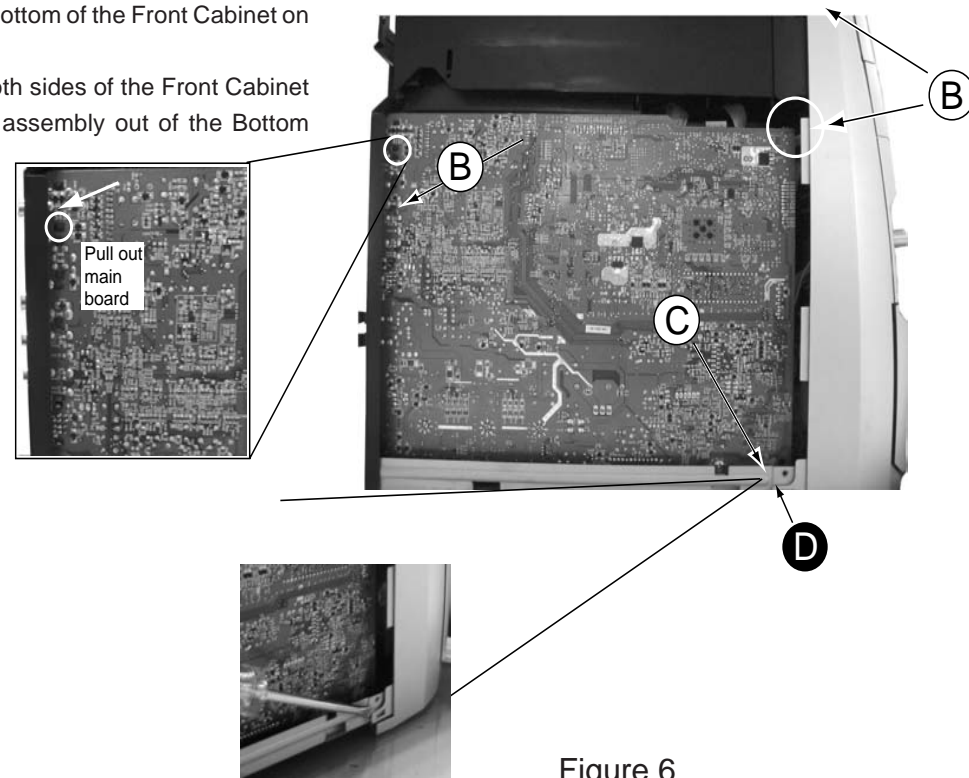

Figure 6
- 1) Release 2 catches 'B' to free the Main board from the Front Cabinet Assembly as shown in figure 6.